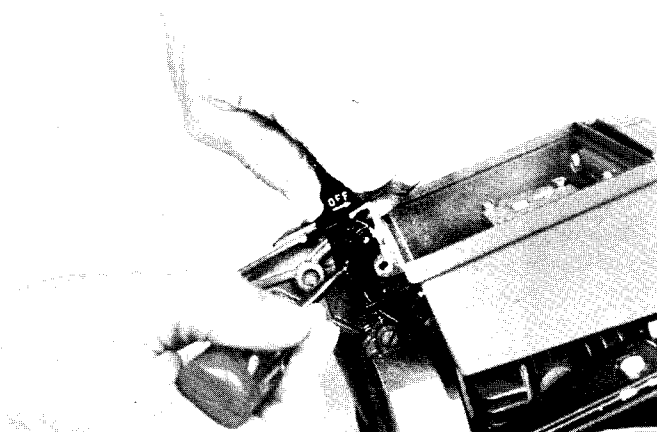

Fig. 47 — Installing Switch and Detent
18. Install switch with detent spring, Fig. 47.